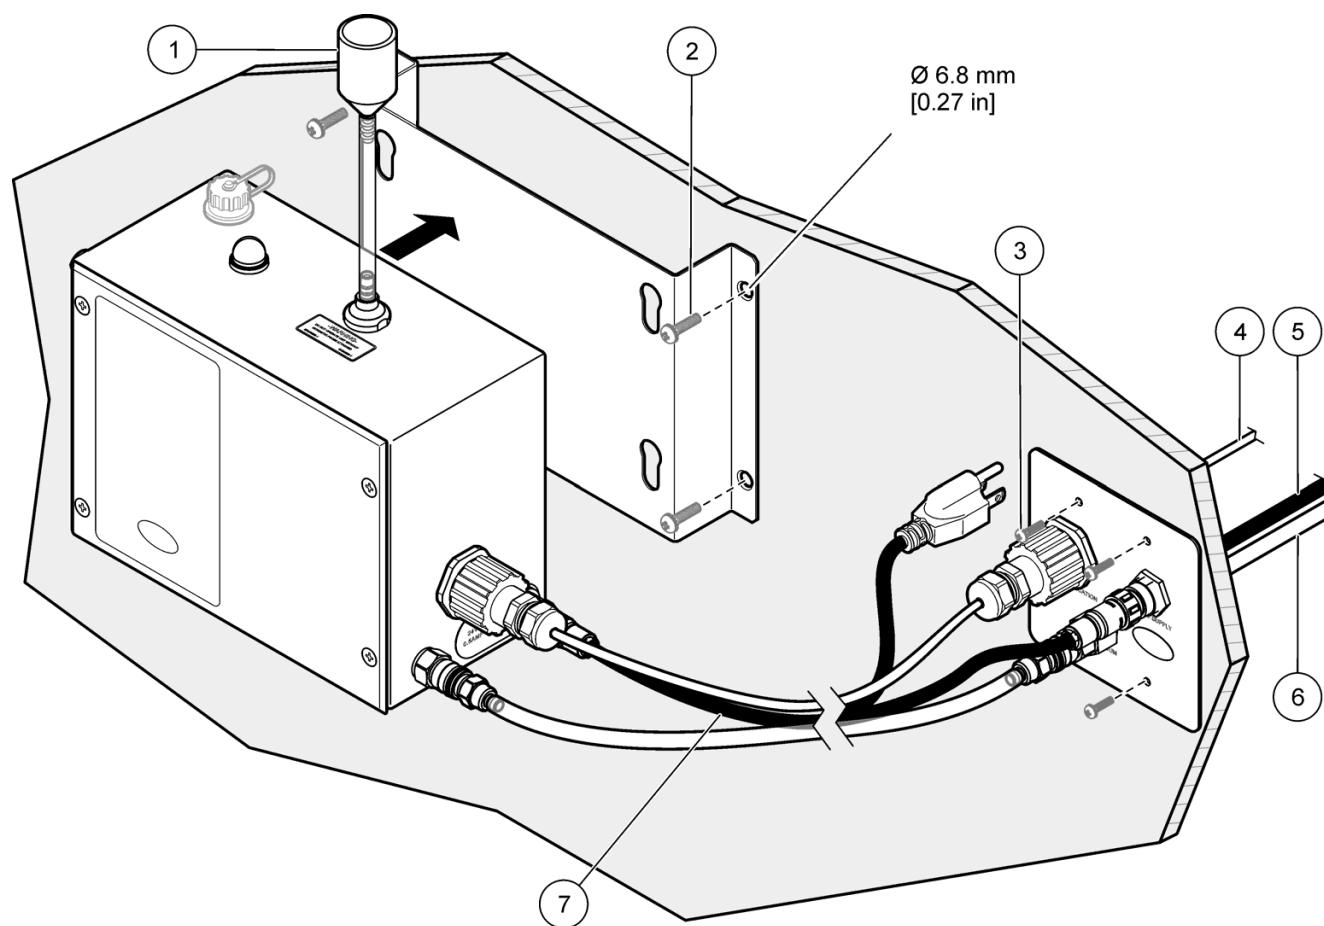

Figure 6 Installation overview
The tasks that follow are necessary to install the particle counter (Figure 6):
3. Hang the particle counter assembly on the slotted holes on the mounting plate. (Figure 6 on page 12).
- Direct mount—the probe is installed on a short piece of tubing directly on top of the counter (Figure 6). Use this probe when the particle counter can be located where the sample is collected. Use the direct mount probe to keep particle loss to a minimum.